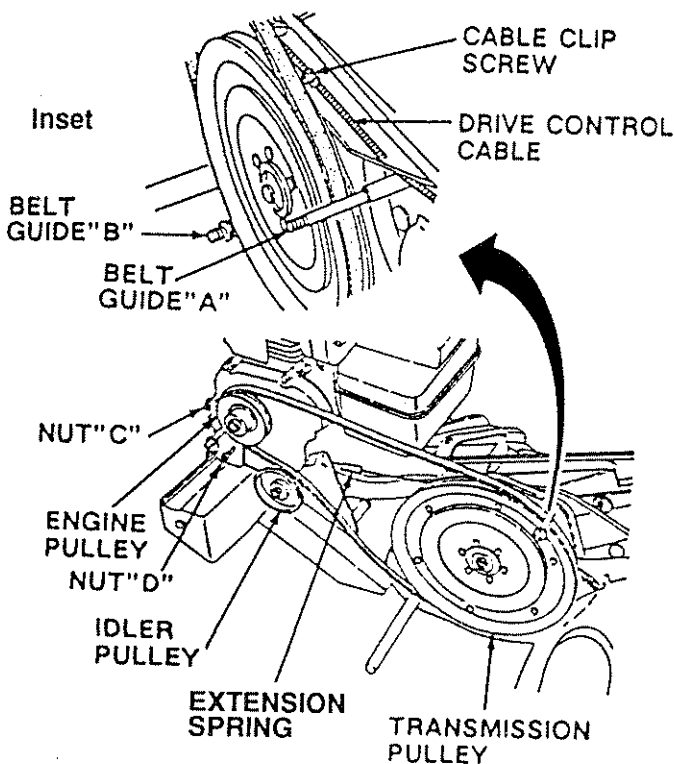

FIGURE 28
For proper belt tension, the Extension Spring (Fig. 28) should have about 5/8 inch stretch with Drive Control Bar in ENGAGED position. This tension can be obtained as follows:
- a. Loosen Cable Clip Screw securing the Drive Control Cable (Fig. 28-Inset).
- Loosen Belt Guides "A" and "B" (Fig. 28-Inset) and also Nuts "C" and "D" (Fig. 28).
- Remove old Belts by slipping from Idler Pulley (Fig. 28) first.
- Place new Belt in groove of Transmission Pulley (large pulley) and into groove of Engine Pulley (Fig. 28). BELT MUST BE IN GROOVE ON TOP OF IDLER PULLEY (FIG. 28). NOTE POSITION OF BELT TO GUIDES.
- Tighten Belt Guides "A" and "B" (Fig. 28 - inset) and Nuts "C" and "D" (Fig. 28).